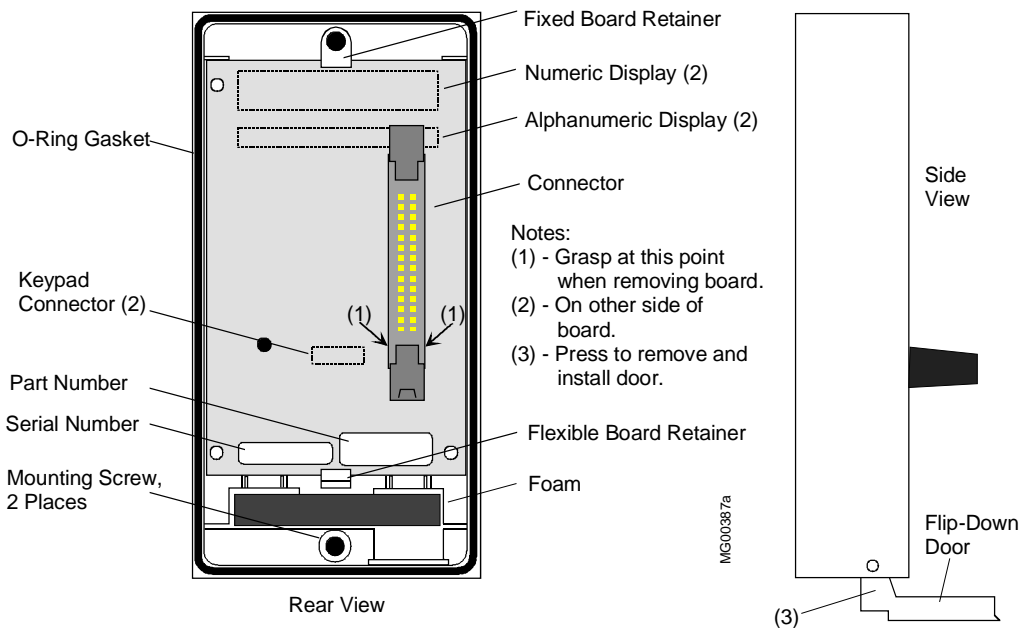

Figure 10-4 Display Assembly Repair
2. Refer to Figure 10-4. Notice that the circuit board is captured by a Fixed Retainer at the top of the bezel and a Flexible Retainer at the bottom. Grasp the body of the connector at (1) and at the same time press the Flexible Retainer downward slightly. Pull gently on the connector to lift the bottom edge of the board above the Flexible Retainer.
3. If the bezel is being replaced, start threading each Faceplate mounting screw into the bezel. Use a screwdriver to complete screw installation. Install the flip-down door; see Figure 10-4.